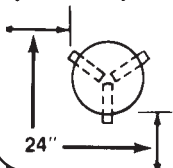

FIGURE 4
STEP 4. Select location for antenna on roof of vehicle. Try to position antenna about 24" from edge of vehicle roof, convenient to download entry point and as far away as possible from roof mounted equipment such as air conditioners or roof vents. See Figure 4.